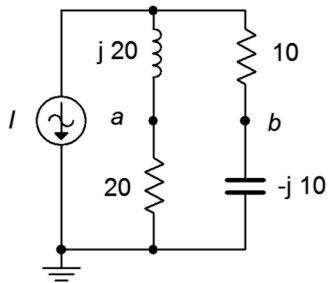

Figure 4.20
32. For the bridge circuit of Figure 4.20, determine v_{ab} . The source is 6 amps peak.